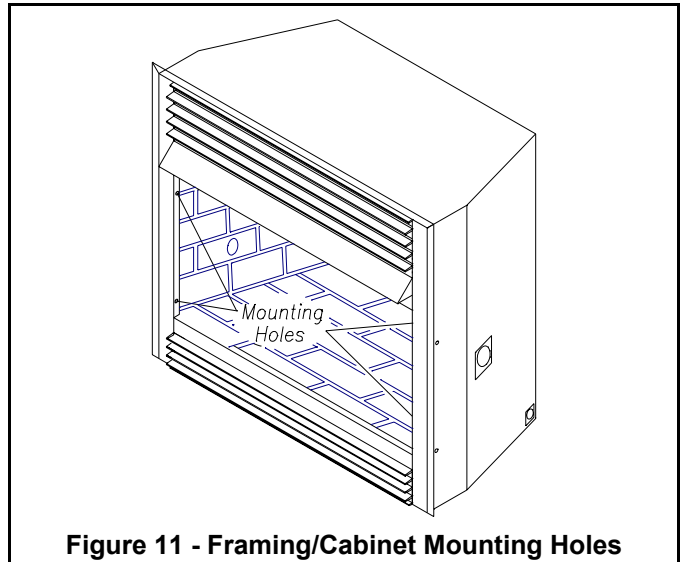

Figure 11 - Framing/Cabinet Mounting Holes
- (Optional)** Attach fireplace to framing using wood screws through holes located on interior sides of the fireplace (See Figure 11).